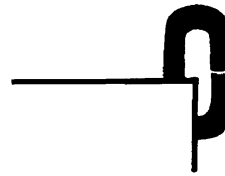

Figure 7
3. Loosen the link, reposition link vertically at edge of vise with the level of the cut above the vise jaw (Figure 7).